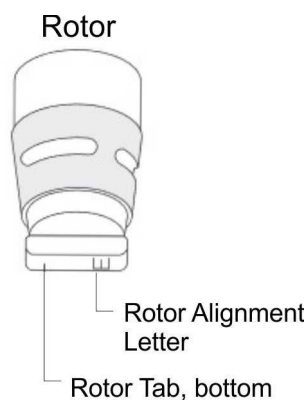

Figure 5-12. Rotor Critical Alignment Detail
9. Attentively noting both the location of Port 6 on the injector valve body (refer to pneumatic flow diagrams in Section 2.3.3) and the alignment letter on the bottom of the rotor (Figure 5-12), use the pencil magnet to carefully place the cleaned or new rotor into the rotor housing so that the rotor alignment letter is aligned with injector valve Port 6.